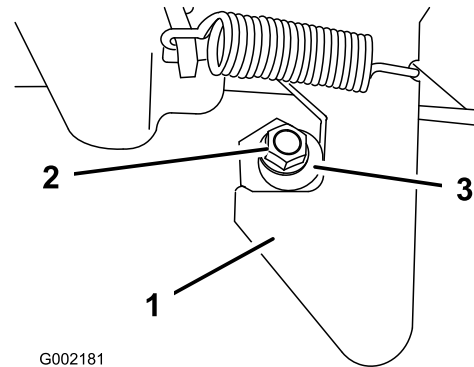

Figure 56
1. Loosen the locknut on the end of the latch post (Figure 56).
2. Rotate the latch post clockwise until it is snug against the hook portion of the latch (Figure 56).